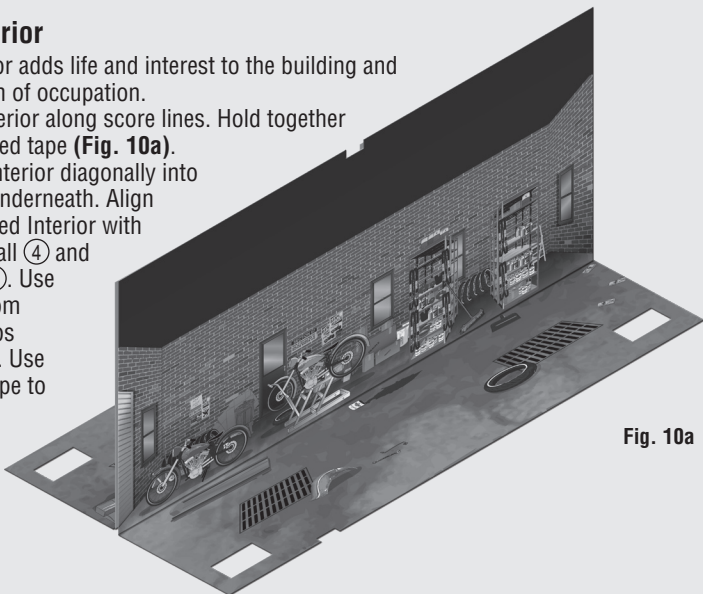

Fig. 10a
- Fold Printed Interior along score lines. Hold together with double-sided tape (**Fig. 10a**).
- Insert Printed Interior diagonally into Building from underneath. Align cutouts in Printed Interior with raceways on Wall ④ and Roof Section ⑥. Use cutouts in bottom flaps to pull flaps flush with Base. Use double-sided tape to secure.